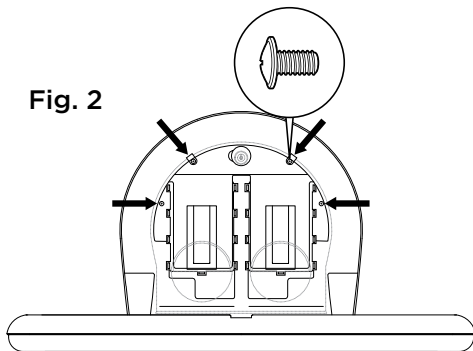
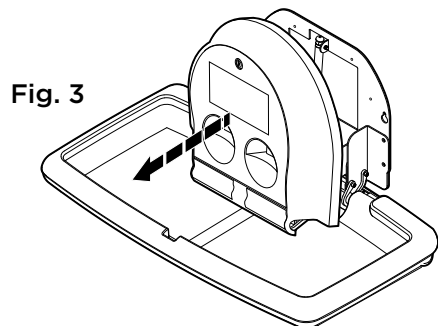

Fig. 2
Fig. 3
- Unscrew the four screws inside the liner dispenser cavity. **Fig. 2** Remove liner dispenser from metal mounting bracket. **Fig. 3**